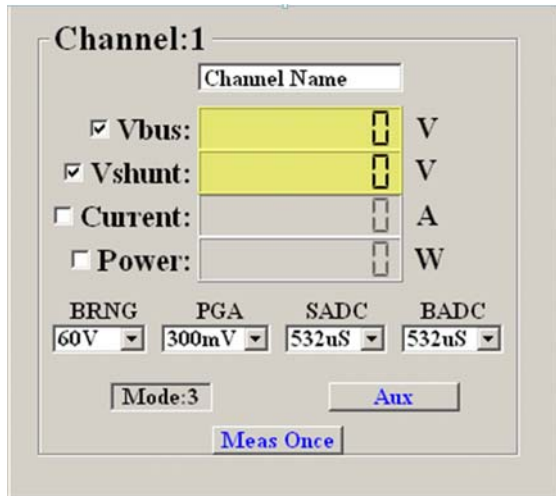

FIGURE 4. SINGLE DPM INTERFACE
- To start collecting data, press the "Start Data Collecting" button located to the left of the "Connect to Device" button at the bottom of the screen. Once pressed, the color of the text and verbiage of the button will change to "Stop Data Collecting". The default state of the software reads each DPM for shunt and bus voltages. To change the read settings of the DPM, toggle the check box/label next to each numerical read out. The backlight of the display will toggle between yellow and gray. A backlight of yellow means a channel is enabled. A change in the functionality of the DPM will change the mode value for the respective channel. The mode of each DPM is displayed in the lower left hand corner of each channel's display. Figure 4 represents a zoomed in view of a single DPM interface.
- The settings of all channels should be finalized prior to invoking the Save Data feature. The user has the option of uniquely naming each channel and having the channel name be passed to the column name of each respective data file. Changing the field named "Channel Name" in Figure 4 will change the name of the column data.